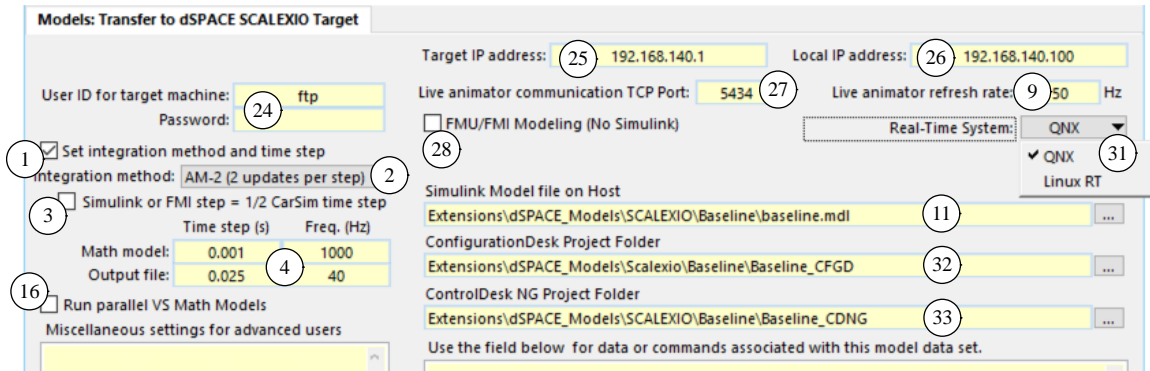

Figure 30. Top of the SCALEXIO screen for an example dataset using a Simulink model.
Figure 30 shows the **Models: Transfer to dSPACE SCALEXIO Target** screen with the controls numbered for compatibility with the discussion in previous sections. In this example, a Simulink model is used to connect with the VS Math Model ⑪, based on the status of the checkbox ②⑧.